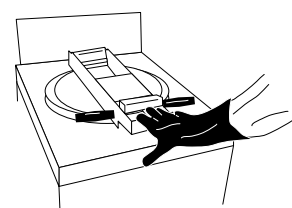

FIGURE 11
B. Do not touch handlebar to open lid until pressing down on lid lock causes the lid to lower. (Figure 11)